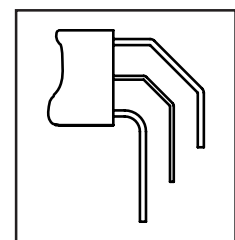

figure 1
- 10** = Extended terminals for WW models (see figure 1)